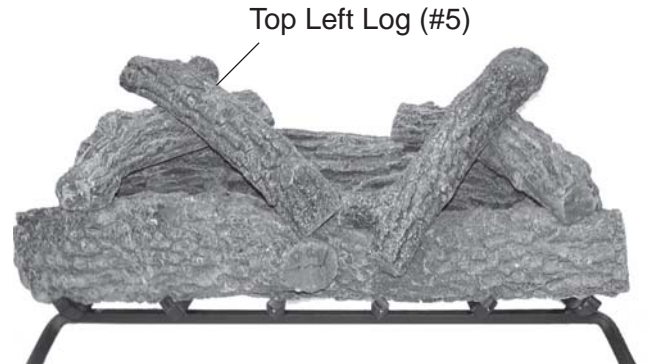

Figure 63 - Positioning Top Right/Left Log (#5)
6. Rest Top Right/Left Log #5 on Log 4 and Log #1. *See Figure 63.*